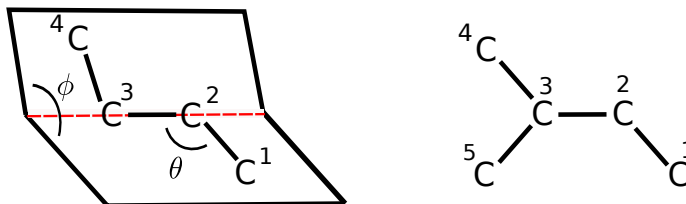

Figure 1: Illustration of the angle and torsion angle.
where k_θ is the force amplitude, and the zero-force angle θ_0 . See Fig. 1 for the angle definition.
Here c_n are the six Ryckaert-Belleman coefficients, and ϕ is the torsion angle, see Fig. 1. Two illustrative examples are when $c_n = 0$ except for $n = 1$:
1. If $c_1 > 0$ then the minimum energy torsion angle is $\phi = 0$; this is illustrated in the right-hand figure in Fig. 1 with torsion angle defined by the 1-2-3-5 bonds. Useful for closed molecular ring structures.
2. If $c_1 < 0$ then the minimum torsion angle is $\phi = \pi$; this is illustrated in the right-hand figure in Fig. 1 with torsion defined by the 1-2-3-4 bonds. Useful for branched molecular structures.